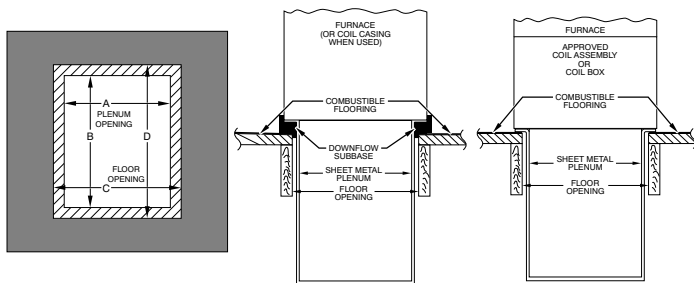

Fig. 25 – Installation on Combustible Flooring
2. Construct hole in floor per Table and Fig. 25.
3. Construct plenum to dimensions specified in Table and Fig. 25.
4. If downflow subbase is used, install as shown. If manufacturer's cased evaporator coil or coil casing is used, install as shown in Fig. 25.